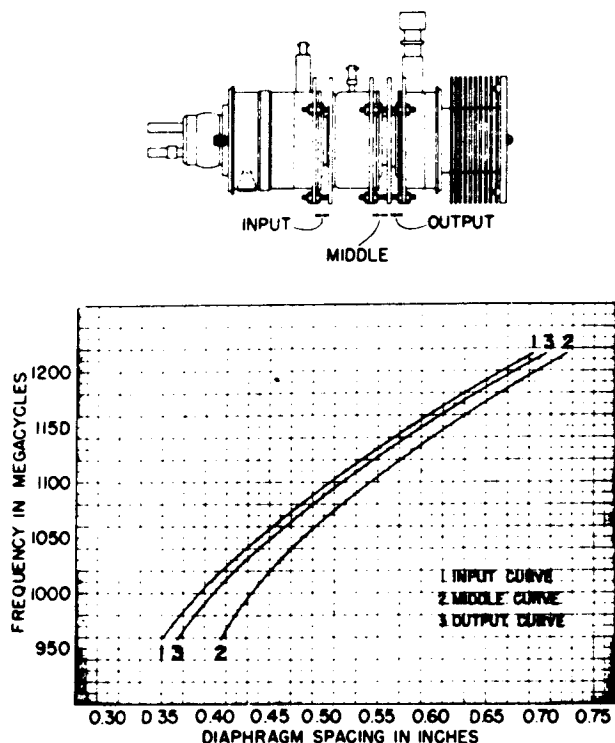

Figure 2-9. Klystron Characteristics, Sample Calibration Curve
Step 1. Before installing klystron, preset spacings of cavity rings to approximate required distance determined by assigned frequency. The spacing of cavity tuning rings is determined by special tuning chart provided with each klystron. A typical chart is shown in figure 2-9.
Do not use sample chart, figure 2-9 for presetting cavity ring spacing. Instead, use chart supplied with particular klystron being installed.
As shown in figure 2-9, the chart contains three curves, one for each of the three klystron cavities; these are klystron INPUT, MIDDLE, and OUTPUT cavities.